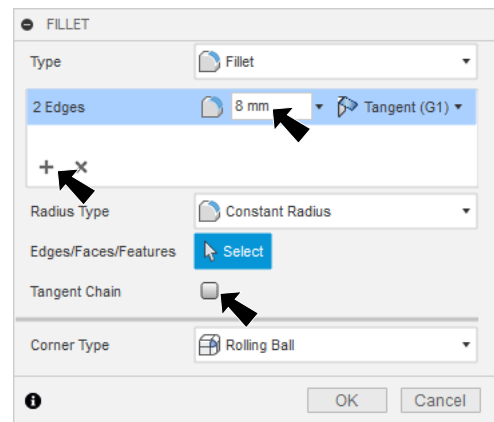

Fig. 39
Step 5. In the Fillet panel set, **Fig. 39**